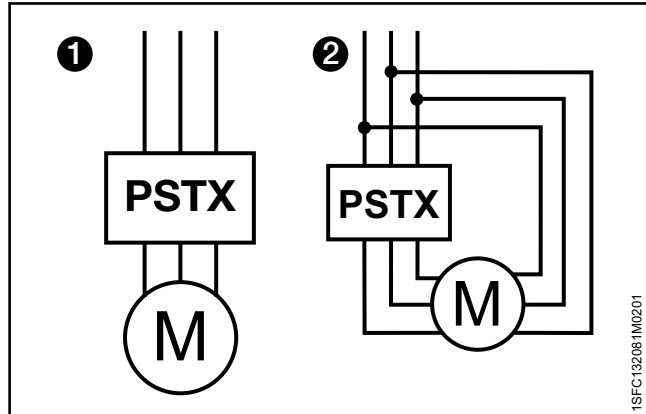
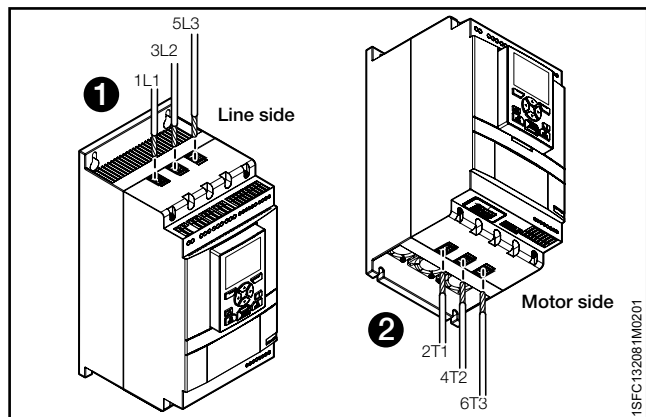
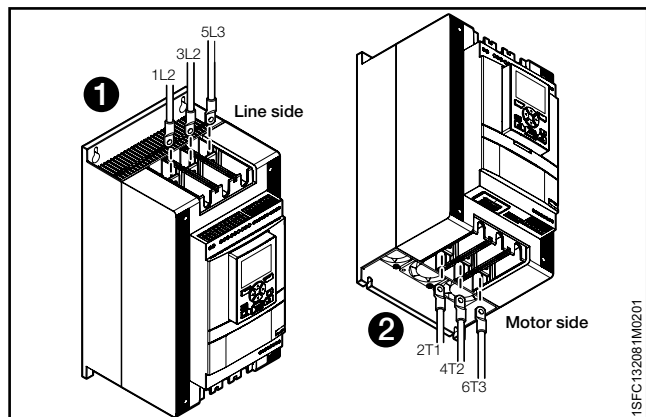

Figure 5.1
Figure 5.2
Figure 5.3
Softstarters PSTX30...PSTX1250 can be connected In Line, see **1** **Figure 5.1**, and Inside Delta, see **2** **Figure 5.1**. Use wire connection for PSTX30...105 see **Figure 5.2**. Terminal connection for PSTX142...1250 see **Figure 5.3**.
- Connect the line side to terminals 1L1, 3L2, 5L3, see **1** in **Figure 5.2** and **Figure 5.3**.
- Connect the motor to terminals 2T1, 4T2, 6T3 on the motor side, see **2** in **Figure 5.2** and **Figure 5.3**.